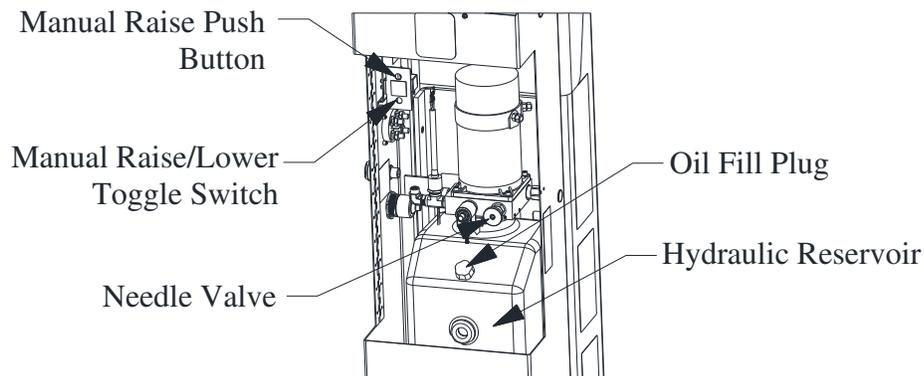

Figure 6. Manual Control Components
- c. Each person must one at a time hold the manual raise/lower toggle switch down (see Figure 6). No motion should occur yet. If a lift unit lowers, release all manual raise/lower toggle switches, then verify all needle valves are closed (i.e., turned completely clockwise).
- d. Each person should slowly open the needle valve located on the power unit to begin descent while holding the manual raise/lower toggle switch down (see Figure 6).
The hydraulic reservoir is mounted inside the lower cover (See Figure 6 on page 21).
- Visually check the hydraulic oil level. The fluid level should be within a range from the bottom of the word “MONARCH” to 1” below the bottom of “MONARCH”. If the fluid level is low, remove the oil fill plug (see Figure 6) and add a high-grade hydraulic fluid equivalent to Phillips 66 Megaflo AW22 HVI. Do not overfill the reservoir. An air gap is required at the top for fluid expansion and to prevent spilling when moving the lift unit. **CAUTION!** *Do not use brake or transmission fluid. Use of the wrong fluid can deteriorate the seals and corrosion problems will occur.*
- Raise the carriage by pushing up on the manual raise/lower toggle switch and pushing in on the manual raise push button (see Figure 6). Raise the carriage approximately two feet off the ground.
- g. When you get down from the ladder, lower the carriage by pushing down on the manual raise/lower toggle switch and opening the needle valve on the power unit (see Figure 6).
- Open the door and push down on the manual raise/lower toggle switch (See Figure 6). You should hear the down stop catch pawl move backward and the switch on the back of the down stop solenoid should click. It may be necessary to watch and listen closely when checking the switch.